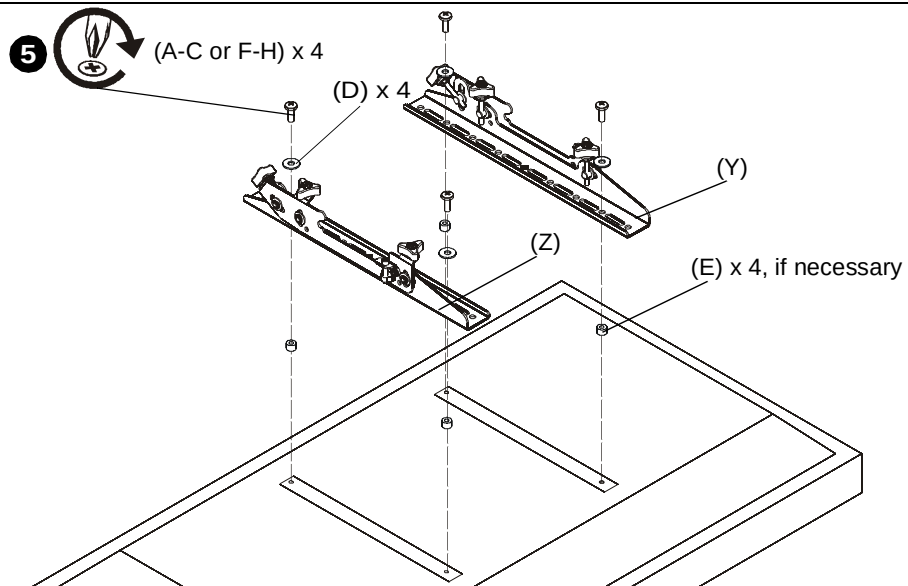
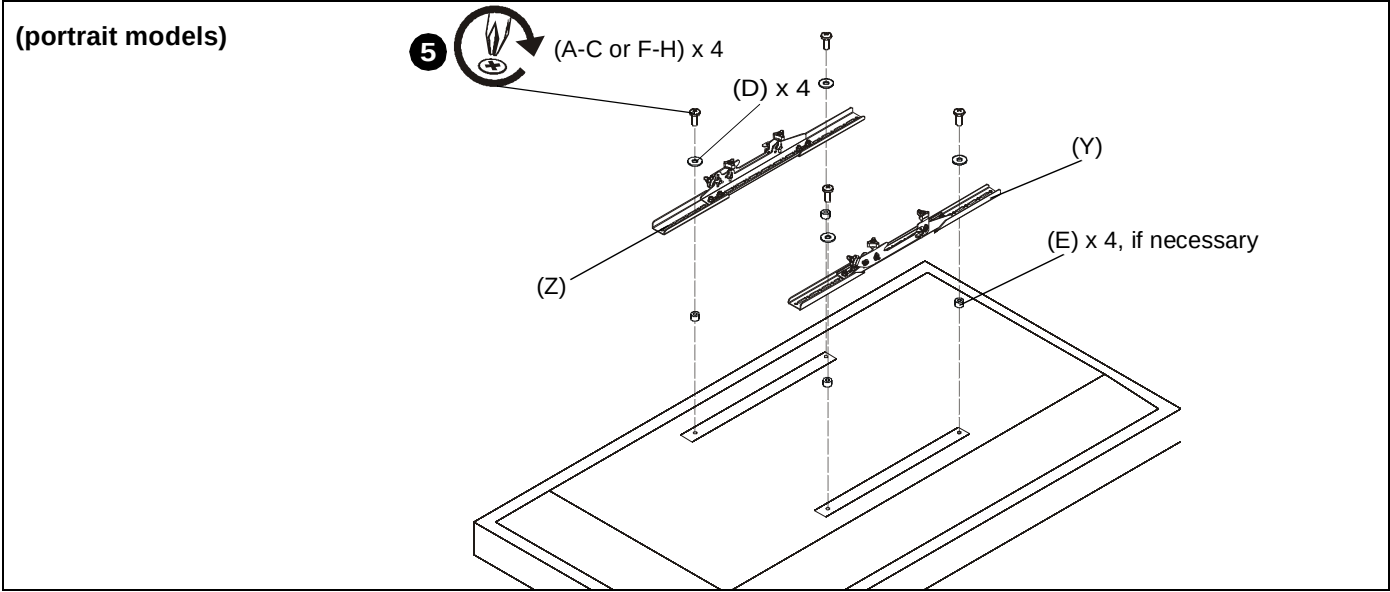

Figure 12
Figure 13
2. Select screw *diameter* by examining hardware (A-C and F-H) (6mm or 8mm) and comparing with mounting holes on display. (See Figure 12) or (See Figure 13)
- If mounting holes are recessed, or if protrusions prevent brackets (Y and Z) from laying flat, then spacers (E) must be used.
4. Select screw *length*: (See Figure 12) and (See Figure 13)
- Using your hand, insert **SHORTEST** length screw of selected diameter (A or F) through 1/4" washer (D), bracket (Y or Z), selected spacer (E, if required), into display mounting hole. Do NOT thread screw into hole at this time.
5. Use selected screws (A-C or F-H), washers (D) and spacers (E), if necessary, to connect interface brackets (Y and Z) to back of display. Make sure diamond on interface brackets is even with center of display. (See Figure 12)